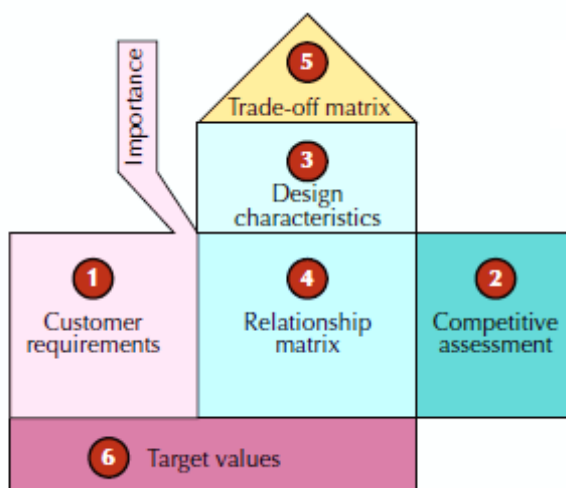

Figure 1.8 Outline of QFD
- As shown in Figure 1.8, the house of quality has six sections: a customer requirements section, a competitive assessment section, a design characteristics section, a relationship matrix, a trade-off matrix, and a target values section.